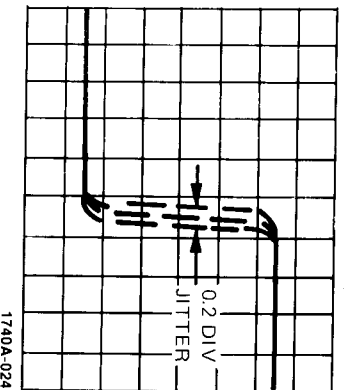

Figure 18. Pulse Jitter Measurement
6. Measure the horizontal displacement on the center horizontal graticule line as shown in figure 18. This displacement times the DLY'D TIME/DIV setting is the pulse jitter in time.
Example: Assume the *DELAYD TIME/DIV* setting is 0.1 mSEC and the horizontal displacement is 0.2 DIV (see figure 18).